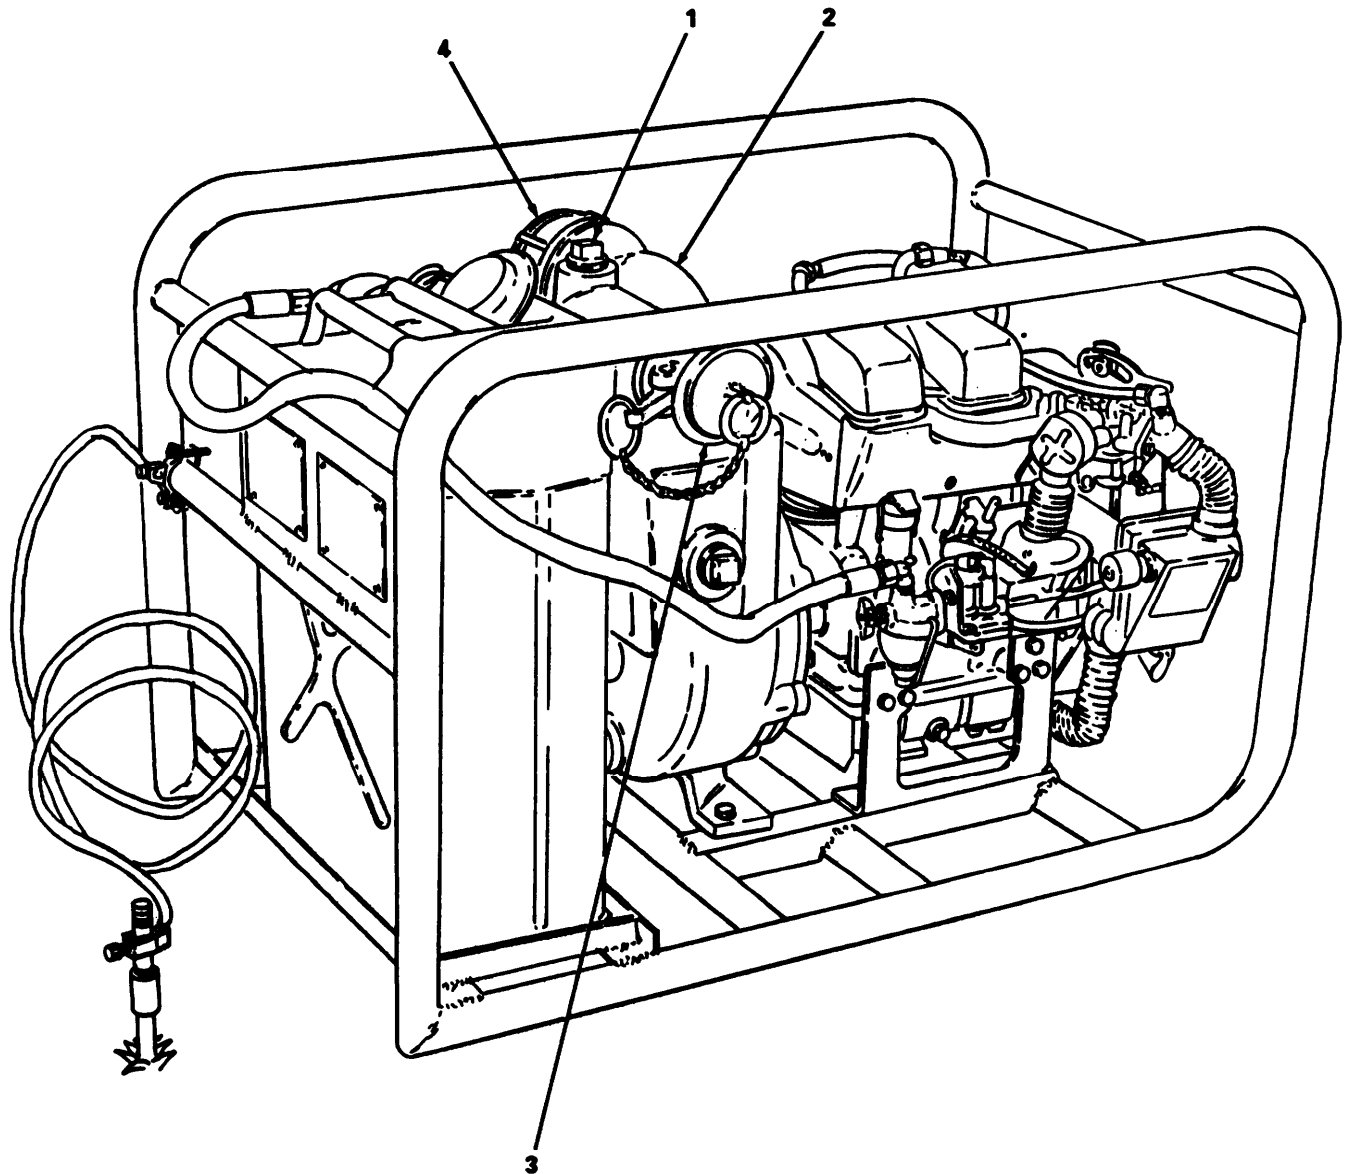

Figure 2-3. Priming the Pump.
- (7) Remove drive stud (3) from coupling (5).
- (8) Install ground rod (6) in coupling (5) and ensure ground rod (6) seats against ground rod (5).
- (9) Install coupling (7) on ground rod(6).
- (10) Install driving stud (3) in coupling (7) and ensure driving stud(3) seats against ground rod (6).
- (11) Drive ground rod (6) into ground until coupling (7) is approximately 1 foot (30.48 cm) above surface.
- (12) Remove drive stud (3) and coupling (7).
- (13) Install clamp (8) on ground rod (6) and install cable (9) between clamp (8) and ground rod (6) and tighten screw (10).
- (14) Install cable (9) in clamp (11) and tighten screw (12).
e. Priming. Time the pump (refer to figure 2-3).
- (1) Remove priming plug (1) from pump housing (2).
- (2) Fill pump housing (2) with fluid being pumped. Fill until fluid reaches inlet (3) and outlet (4) ports.
- (3) Install priming plug (1).